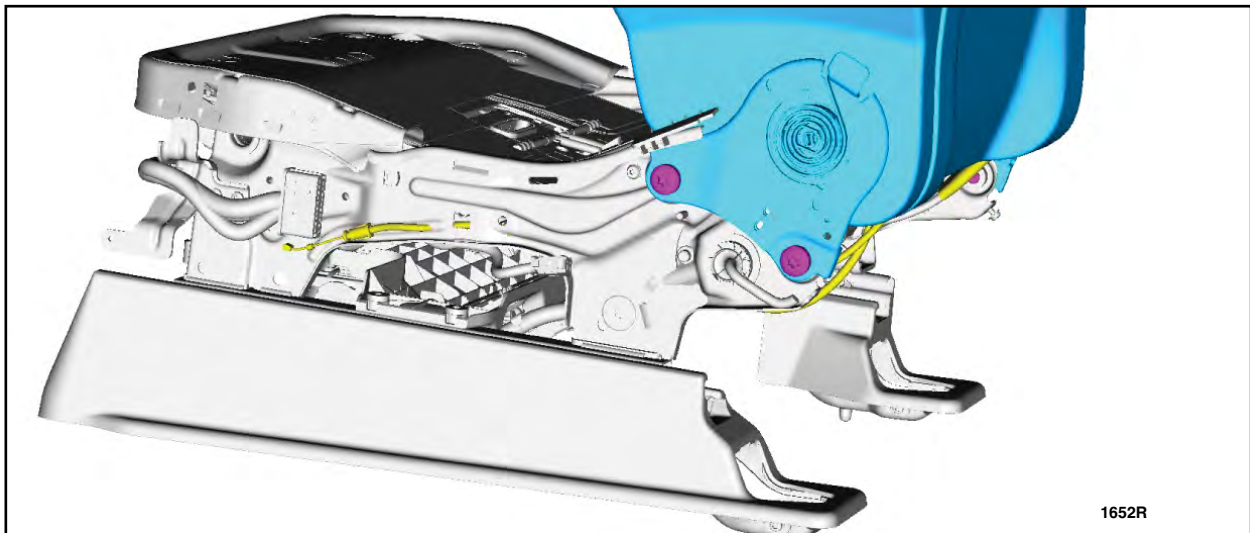

FIGURE 28
9. Remove and discard the four bolts and remove the front seat backrest. See Figure 28.